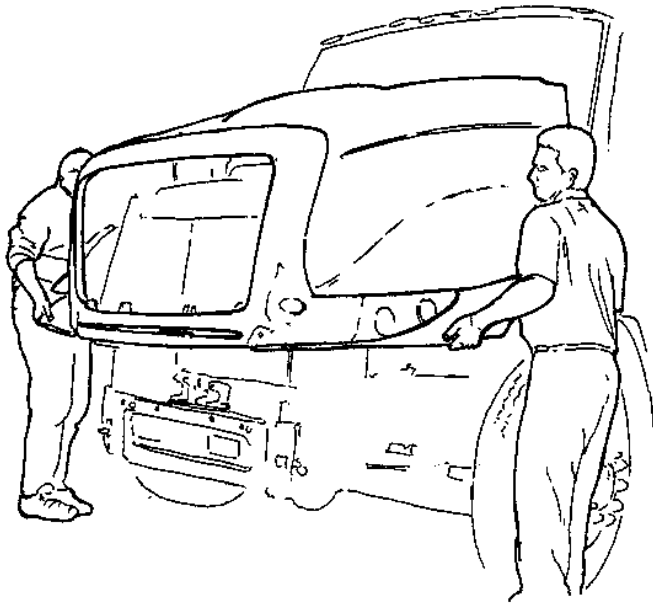

Figure 28 Front Hood- Remove and Install
19. With an assistant, remove the hood assembly (Figure 28). Place the hood on an appropriate padded surface to protect painted surfaces.